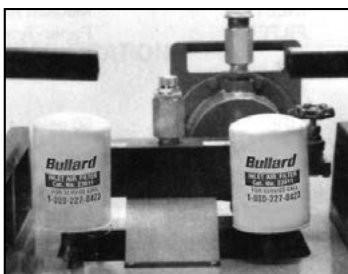

Figure 5
2. Make sure the pump's inlet filters are located in a clean, uncontaminated location where breathable air is assured at all times (Figure 5).